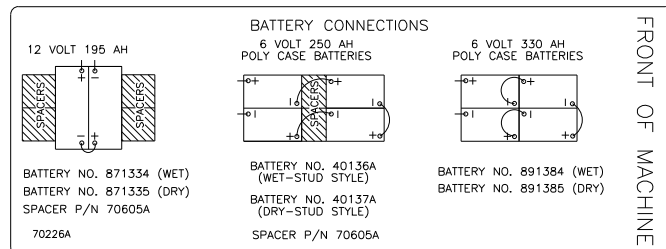

Figure 8C
4. Place the batteries in the tray as shown in figure 8C.
5. Connect the cables between batteries and install long battery cable assembly as indicated. See figure 8C.